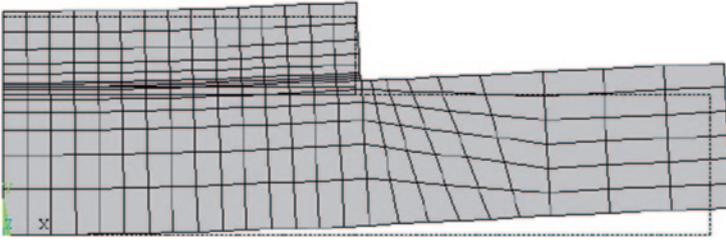

Fig. 9.53 Deformed shape of the electronic package due to thermal loading at load step 1, substep 10
- The deformed shape appears, as shown in Fig. 9.53.